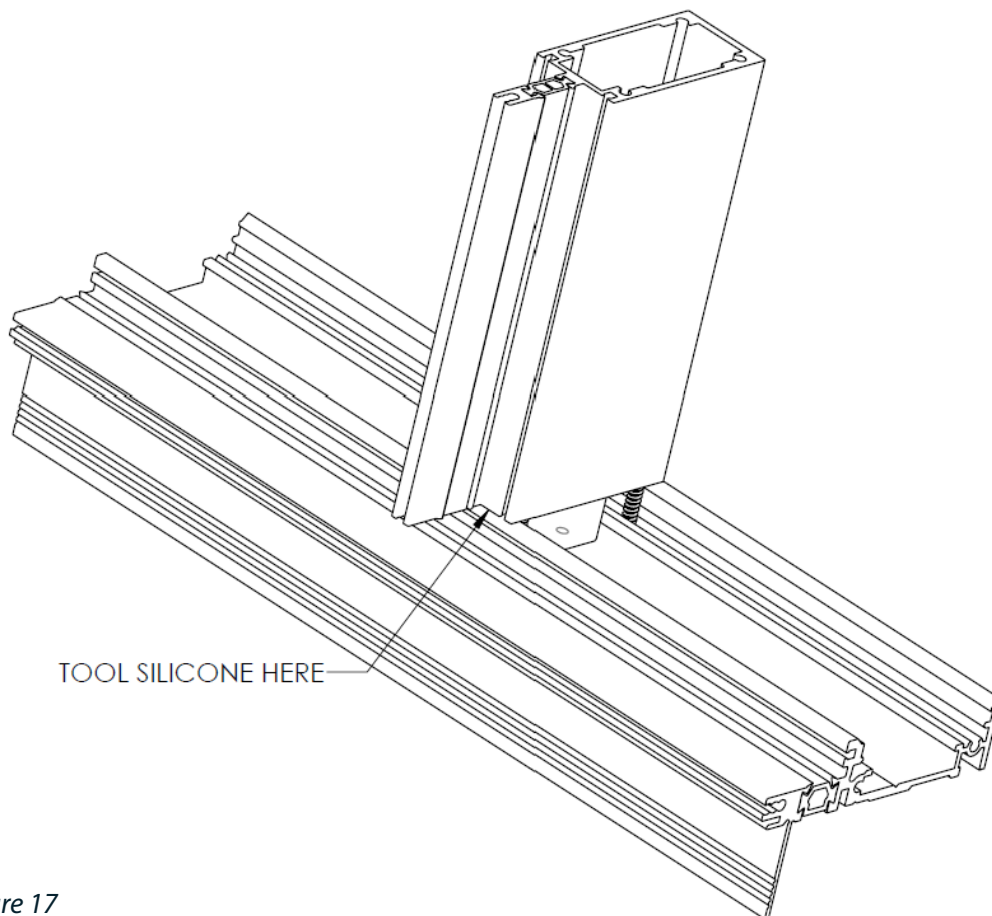

Figure 17
9. Before inserting Horizontal T-Bar please insure to apply sealant at end of T-Bar. Place the Horizontal T-bar over the brackets on the perimeter frame with the open side facing toward the sill (which will be facing down when the product is finally installed). Assemble the horizontal T-bars onto the Perimeter frame from below using (2) #10 x 5/8" screws through the wind bracket and (2) #10 x 1 1/2" screws through the pre-drilled holes in the perimeter frame into the screw bosses on the horizontal T-bar. If the opposite end of the horizontal T-bar is attached to a vertical T-bar, follow the same process outlined in step 6.
11. At each location where the weather strip joins at the intersection, and at each face where two frame members meet, apply a generous amount of Dow 795 sealant or equivalent and tool sealant to ensure a continuous watertight seal with no holes or voids. Apply and tool sealant over all vertical load screws and all assembly screws that penetrate the perimeter frame. (See Figure 17).